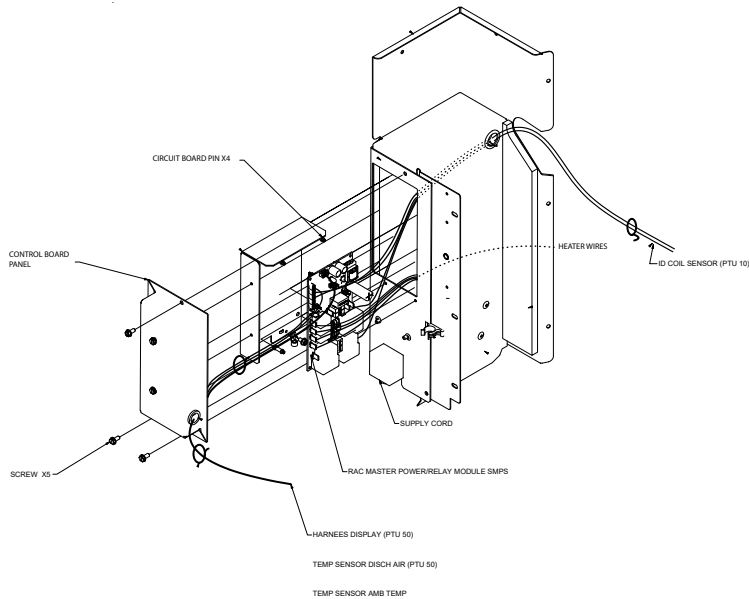

Figure 713 (Electronic Control Board Replacement)
4. If there is no voltage, replace the electronic control board (refer to Fig 713).
1. Gain access to Electronic Control Board (Refer to Control Board Replacement, Fig 713)